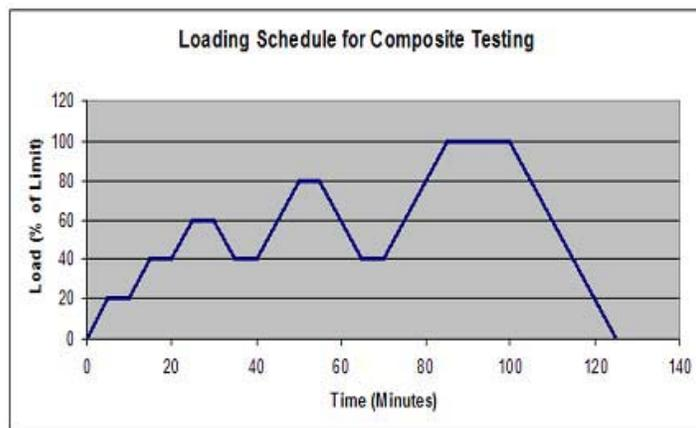
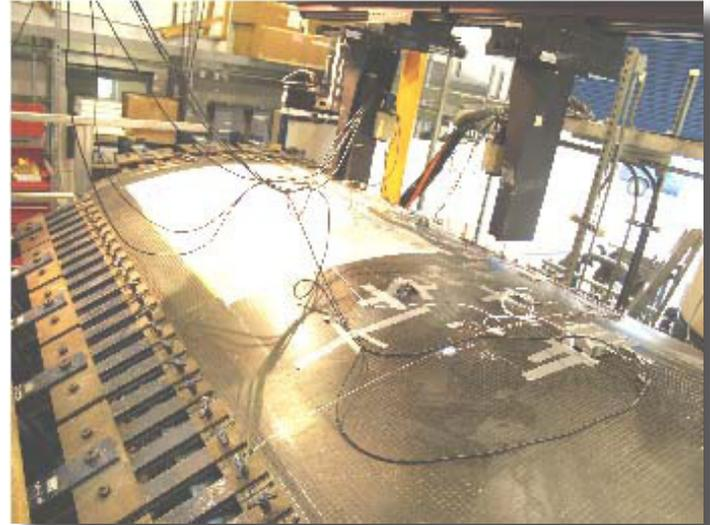
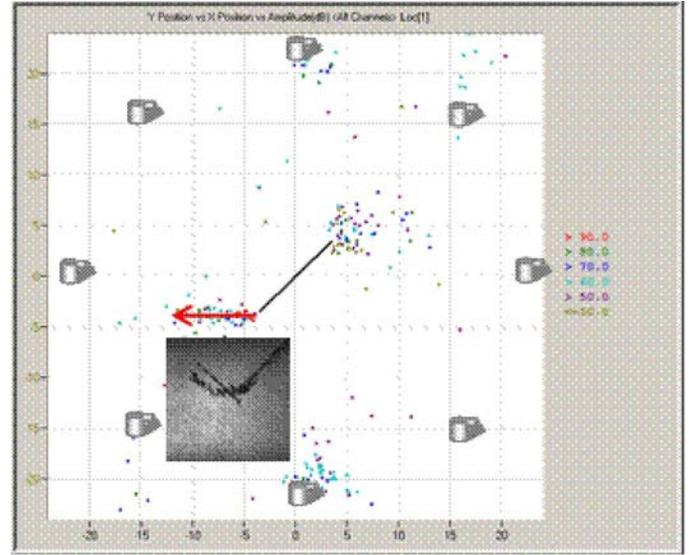

Figure 2. Typical Load Schedule used when Testing Composites with AE
Figure 1. Aerospace Composite Structure Instrumented with AE
Figure 4. Planar Location of AE Events Due to the Growth of Damage at the Tips of a Notch.
An array of Acoustic Emission (AE) sensors (as shown in Figure 1) are used to instrument the composite structure to be tested. The AE response is monitored while a series of loads are applied as shown in Figure 2. Fatigue loading can be used as well.
For the composite structure shown in Figure 1, the material lay-up was pseudoisotropic, thus allowing conventional source location. A planar location plot is shown in Figure 4 showing the location of AE events due to damage and crack growth at the tips of a notch cut into the composite. The area is instrumented with eight transducers so as to utilize over-determined source location and produce accurate positions for the AE damage/defect events.